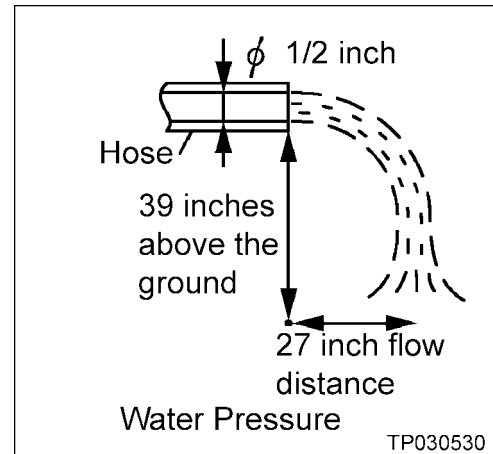

Figure 5
- Adjust the water pressure enough to flow out the end of the hose a distance of about 27 inches with the hose 39 inches above the ground (see Figure 5).